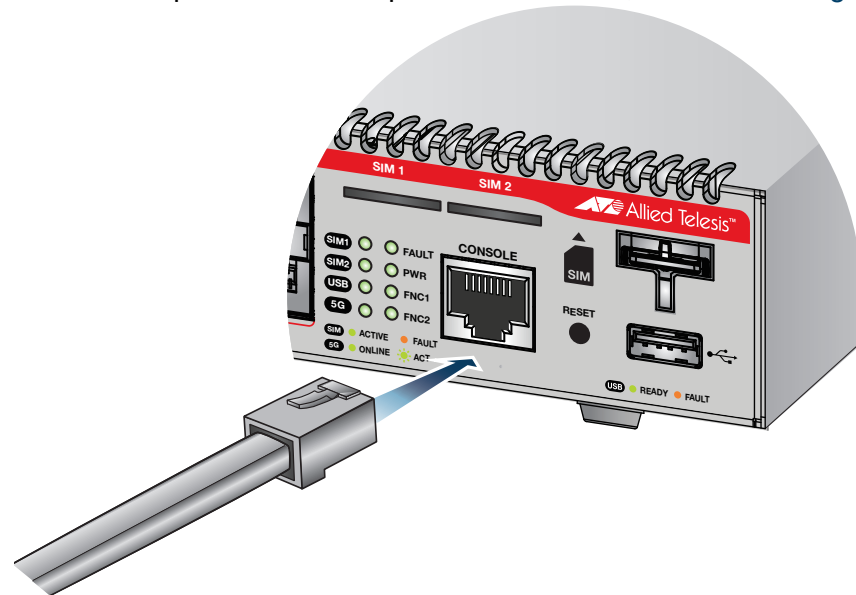

Figure 32. Connecting the Management Cable to the Console Port
1. Connect the RJ-45 connector on the management cable to the Console port on the front panel of the router, as shown in Figure 32.